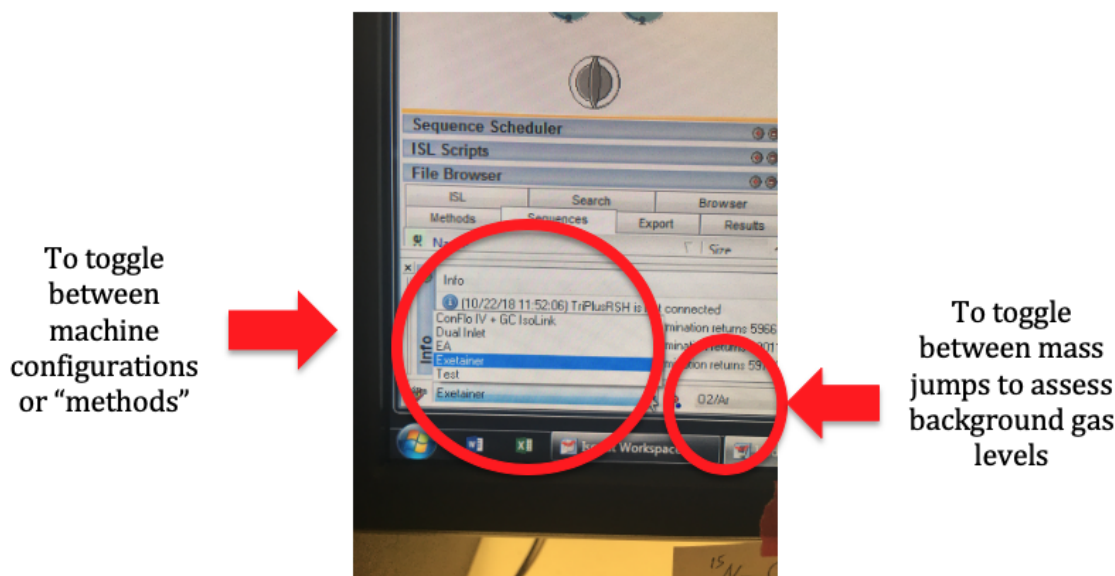

Figure 1: Analysis configuration for standard exetainer analysis.
3. It is possible that a little bit of air will enter the system. Confirm any air has been purged by switching to the 'N2' gas configuration using the pulldown menu just to the right of one to set the system configuration. Under the MS window, mass 30 should be <100 mV (typically around 60 mV). You may also check background levels of other gases (O2/Ar, N2, and CO2) by toggling between those mass jumps. You may toggle between them using the pop-up menu in the lower left-hand corner of the application, next to the method indicator (Figure 1).